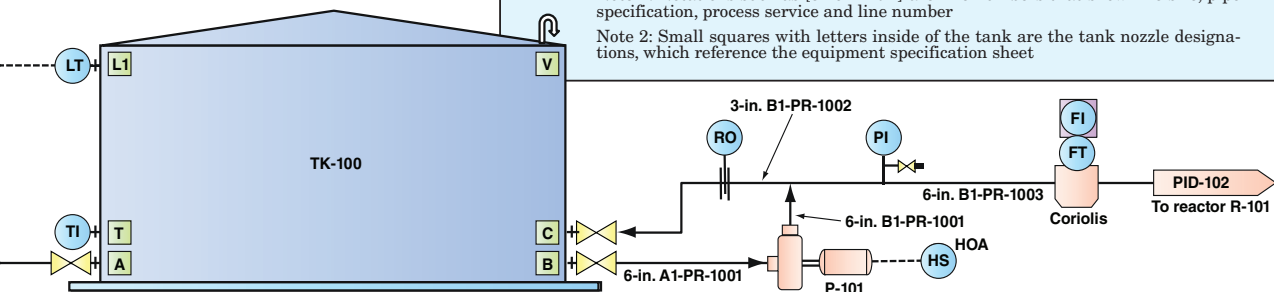

FIGURE 3. In a process and instrumentation diagram, specific details of the process are captured, to support the design and procurement process
- New or revised plot plans, process flow diagrams (PFDs; Figure 2) and piping and instrumentation diagrams (P&IDs; Figure 3) to show proposed project requirements (Note: Both PFDs and P&IDs are discussed in detail below)